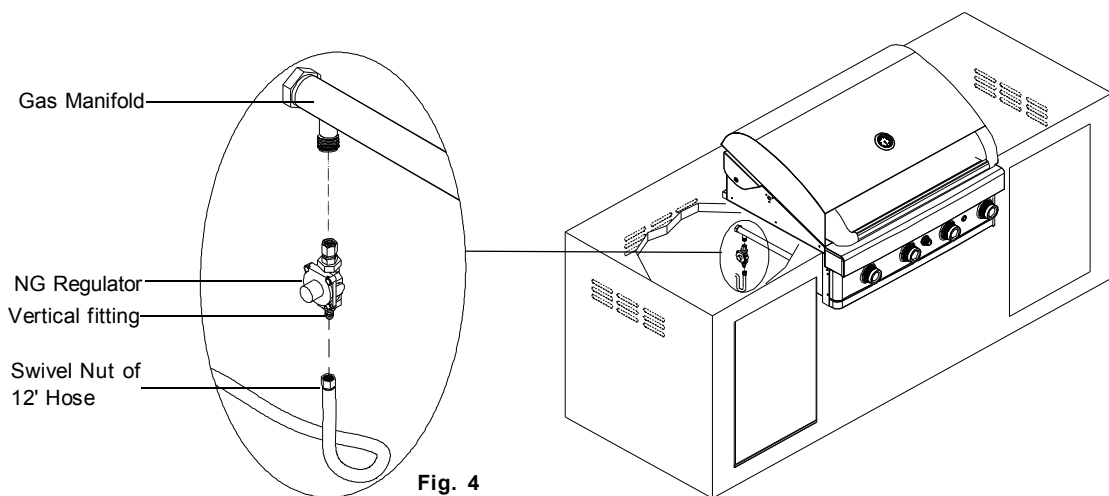

Fig. 4
- Connect the NG regulator to the inlet of gas manifold and tighten securely. **(See Fig. 4)**